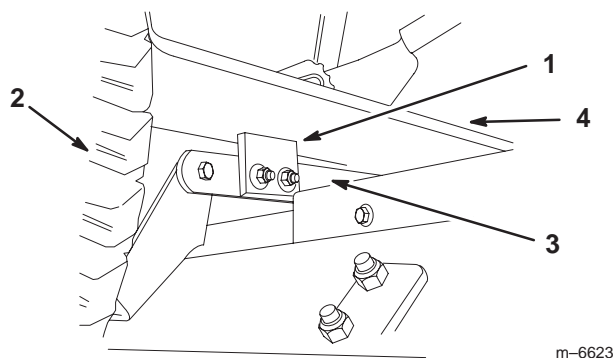

Figure 18
3. Raise the attachment lift lever or electric lift all the way up. Check if bumpers, on rear of mower draft bars contact under footrests (Fig. 18).